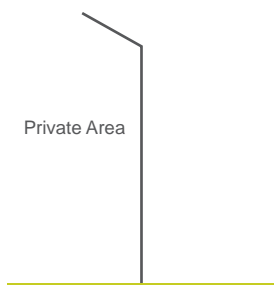

Fig.2
- To keep people in a private area the posts should angled in over (Fig.2).